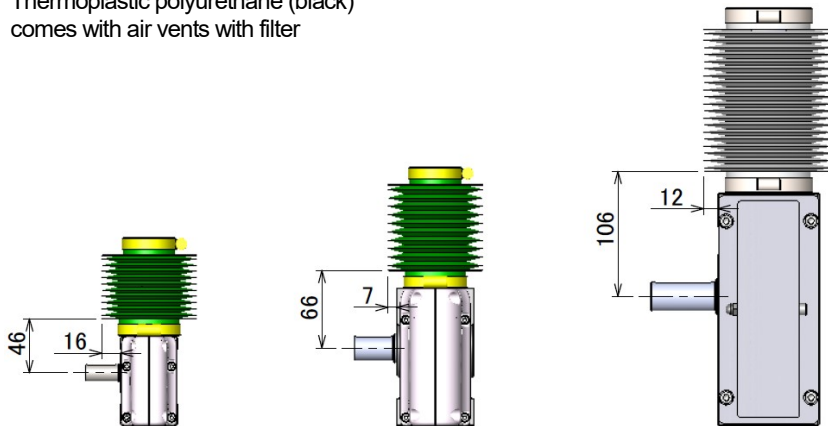

Fig. 23 With bellows attached – 1 (left: ZCA25, middle: ZCA35, right: ZCA45)
- The bellows will protrude slightly from the ZCA unit. Confirm that there is no interference especially when attaching a pulley, sprocket, or coupling to the input shaft. (See Fig. 23)